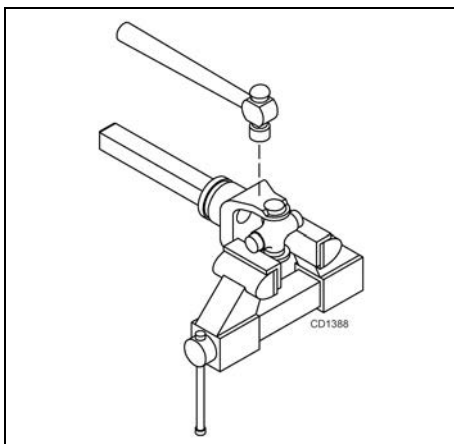

Figure 23
4. Place universal cross in vise as shown in Figure 23 and tap on yoke to remove cup. Repeat Step 3 for final removal. Drive remaining cup out with a drift and hammer.